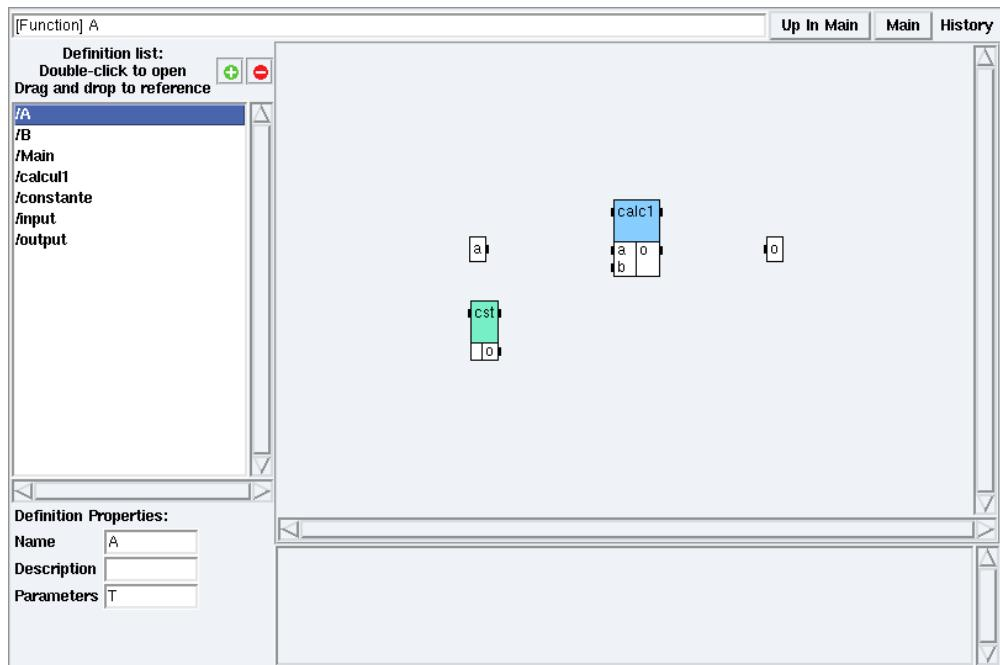

Figure 2.1: Parameters
- add a parameter name (cf. figure 2.1): Field **Parameters** → `T`.